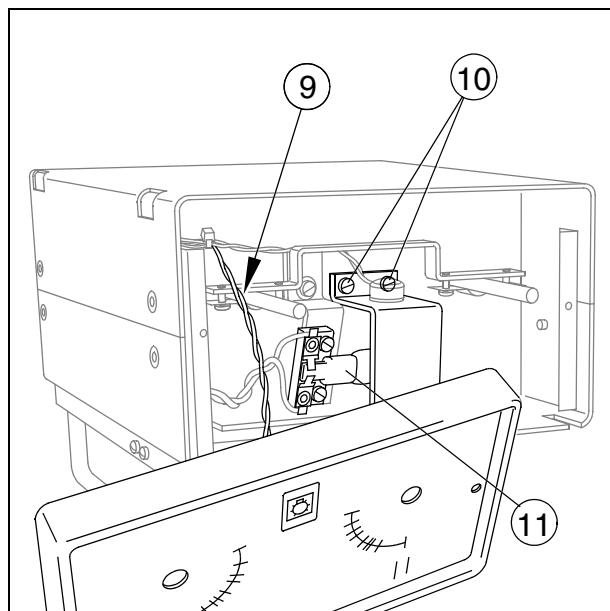

Fig. 8
Caution: The front panel is connected to the collimator via a cable (9/Fig. 8).
- Remove both screws (10/Fig. 8) and take off the metal bracket for the temperature switch).
- Take out the defective lamp (11/Fig. 8) and replace it with a new lamp